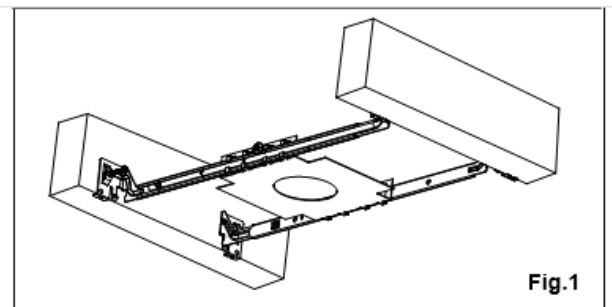

Fig.1
1. Install mounting frame using two hanger bars, (24 1/2" max). Bars are notched on the ends to fit over "T" bars in suspended ceilings. Hanger bars include a captive mounting "screw-nail" for ease of installation, as shown in the Fig.1. Align the bottom of the hanger bar with the bottom of the wood joist. Secure the "screw-nail" on each end by screwdriver (as Fig.A), or by hammer (as Fig.B).